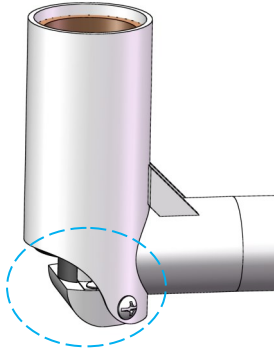

Figure 40: Electrical Connector.
3. Remove the electrical connector (slip ring) by unscrewing the two screws and placing them aside. Slide out the electrical connector from the tube and allow it to hang off to the side. Refer to Figures 40 and 41.